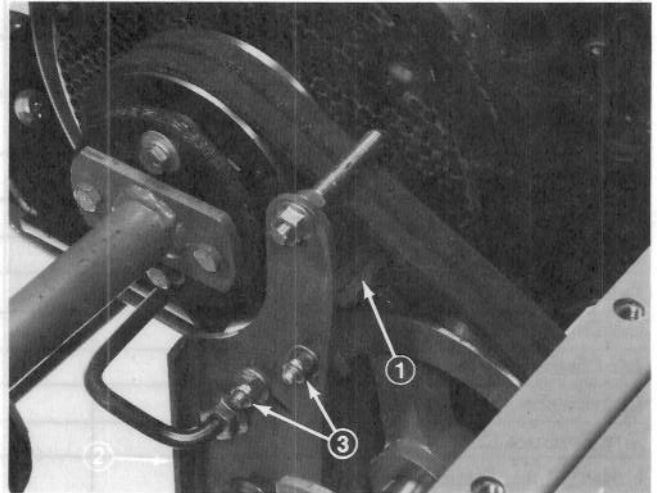

Figure 79
2. Inspect brake pad and lining assembly for excessive wear or damage (Fig. 79) and replace if necessary. Remove assembly by removing capscrews and flangenuts. (Fig. 79).
3. Reinstall brake pad and lining onto PTO brake assembly with capscrews and flangenuts and mount PTO brake assembly (Fig. 79). Install all mounting components in same location from which they were removed.
4. Align PTO brake assembly with pulleys and belts and tighten mounting fasteners. Visually inspect alignment of brake lining with pulley. Lining should be parallel to pulley and centered over pulley grooves. Loosen and remove PTO brake bracket fasteners and add or remove spacers between the bracket and mounting plate to achieve a parallel adjustment. Adjust the capscrews & flangenuts to center the lining assembly (Fig. 79).